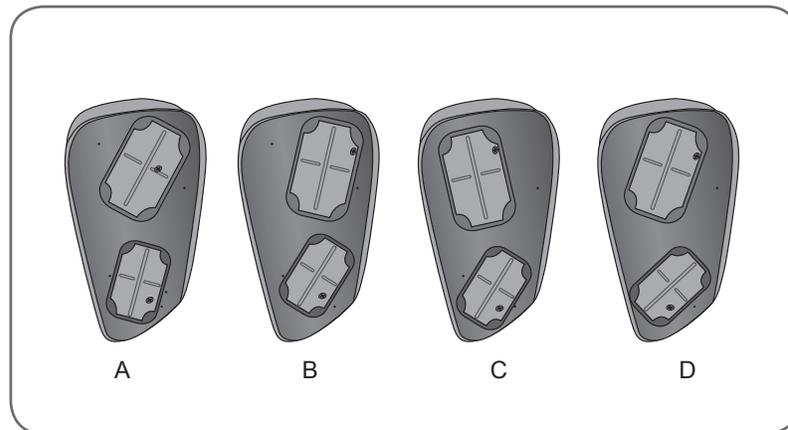

Figure 6-15: Extensor fitting panels.
1. Select an extensor fitting panel that will elicit the desired hand movement. See Figure 6-15.